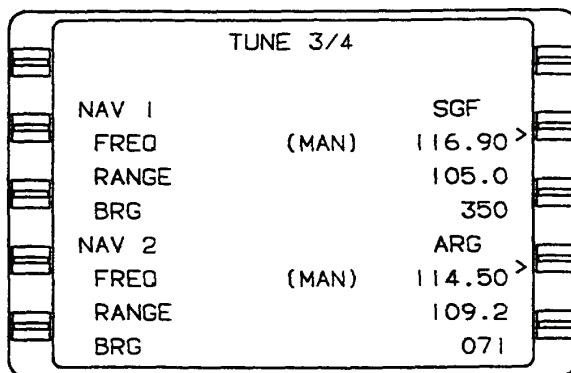

Figure 3A-45. Tune 3/4 Page, Nav
(3) *Tune 3/4 Page, Nav.* Refer to Figure 3A-45.